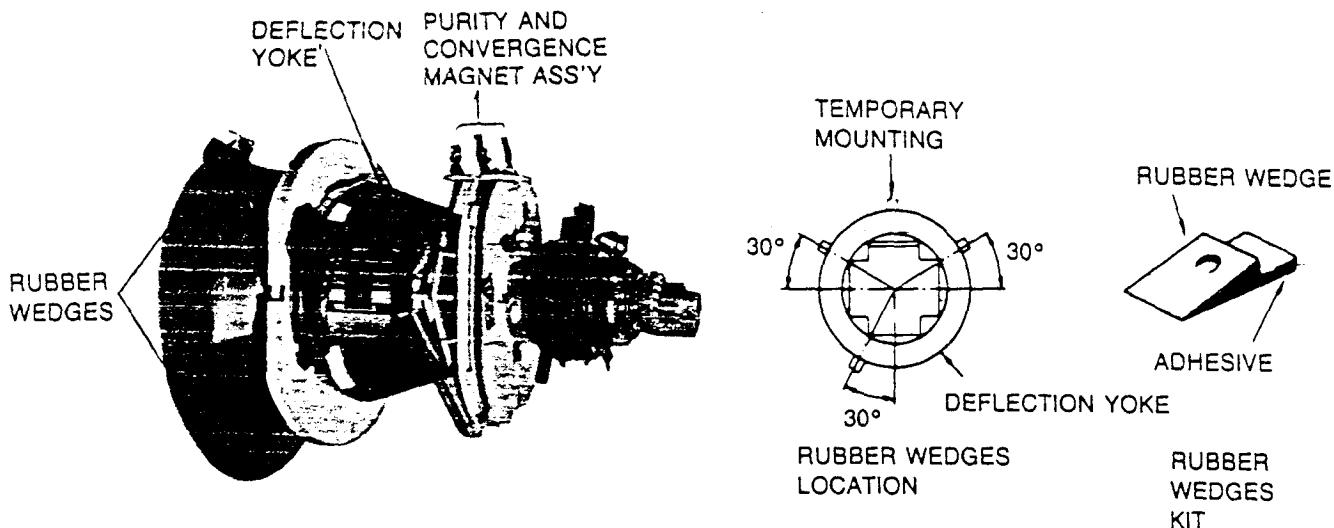

Figure 14
CAUTION: Convergence and Purity have been factory aligned. Do not attempt to tamper with these alignments. However, the effects of adjacent receiver components, or replacement of picture tube or deflection yoke may require the need to readjust purity and convergence. Convergence magnet assembly and rubber wedges need mechanical positioning following the figure 14. Before attempting any convergence adjustments this receiver should be operated for at least fifteen minutes. If adjustment is required the adjustments should be made in the following sequence.
2. Adjust DY to obtain a better convergence in the circumference by orbital movement of the front of the yoke, then secure the DY in appropriate position by placing the wedges as illustrated in Figure 14. Tighten screw holding the DY. Stick 3 adhesive tapes on wedges as shown in Figure. 14.